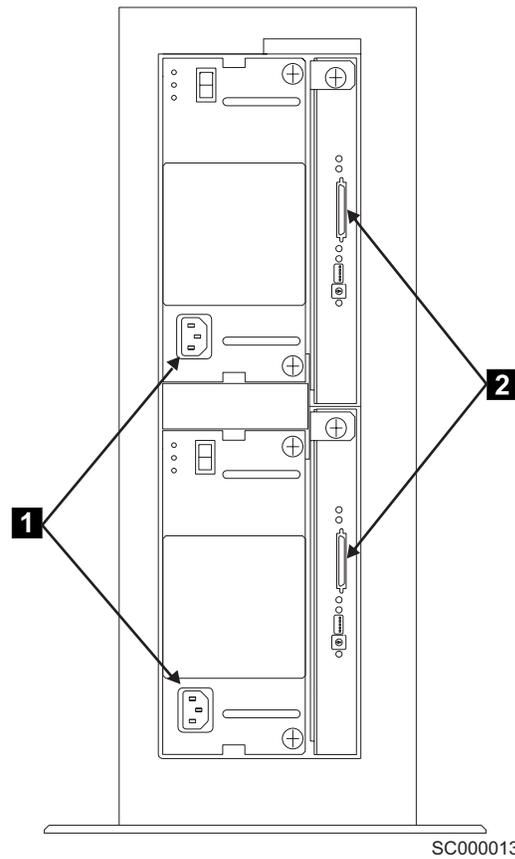

Figure 7. Power cables and SCSI connectors (2104 Model TS4)
1. Ensure that a power cable is plugged into each power socket **1**. See Figure 7.
Ensure that no external SCSI cables are connected at the SCSI connectors **2**. See Figure 7 on page xvi.